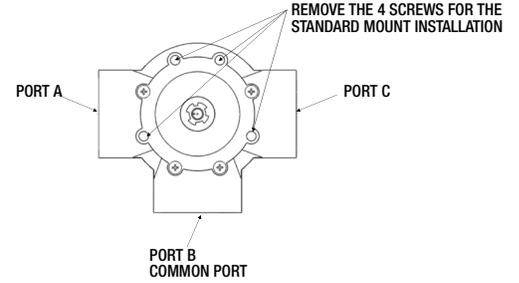

Figure 1.
2. With a Phillips screwdriver, remove the four screws from the valve body as shown in Figure 1.
Standard Plumbing - A three-port valve is the port B (middle) being the incoming (common) port and A and C ports are the outlet ports (see Figure 1).